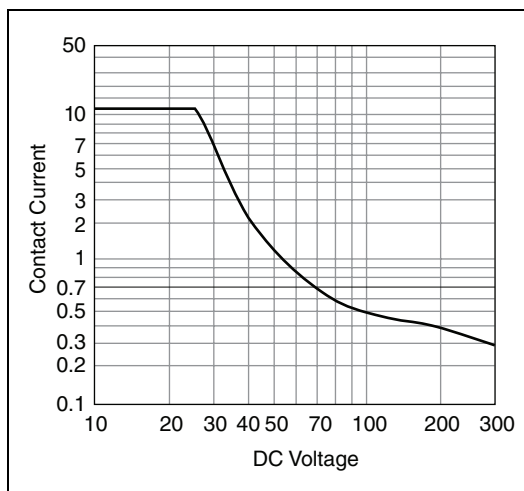

Figure 1. Maximum Switching Power for DC Loads (per channel)
Caution The switching power is limited by the maximum switching current and the maximum voltage. For AC systems, switching power must not exceed 3 kVA. For maximum DC switching power, refer to Figure 1.
- DC systems Refer to Figure 1
Figures 1 and 2 show the maximum switching power for DC loads and maximum current for ambient temperatures, respectively.